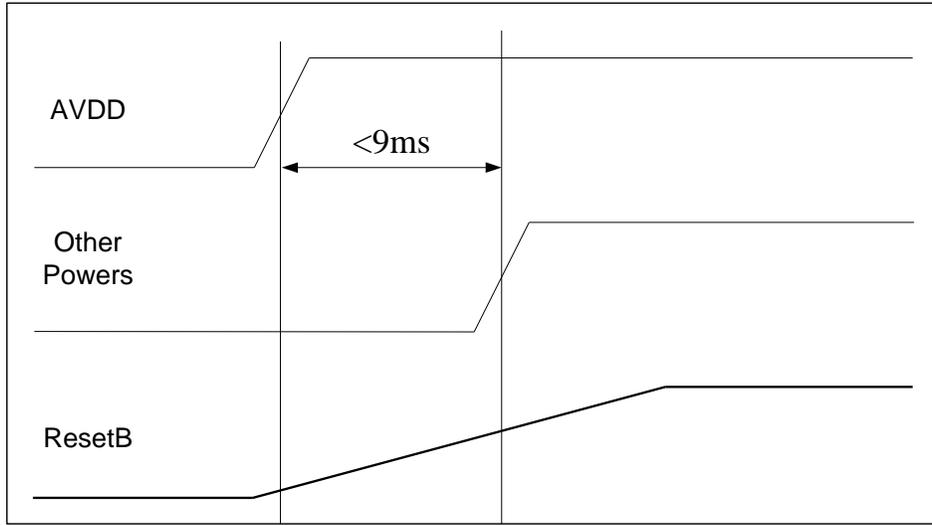

Figure 2: Power-on Reset Function's Sequence on board
1. The ResetB signal can be generated by on board Resistor and Capacitor delay which can be refer to **Figure 2**. For hard ware circuit, please refer to **2.3 RESETB**.